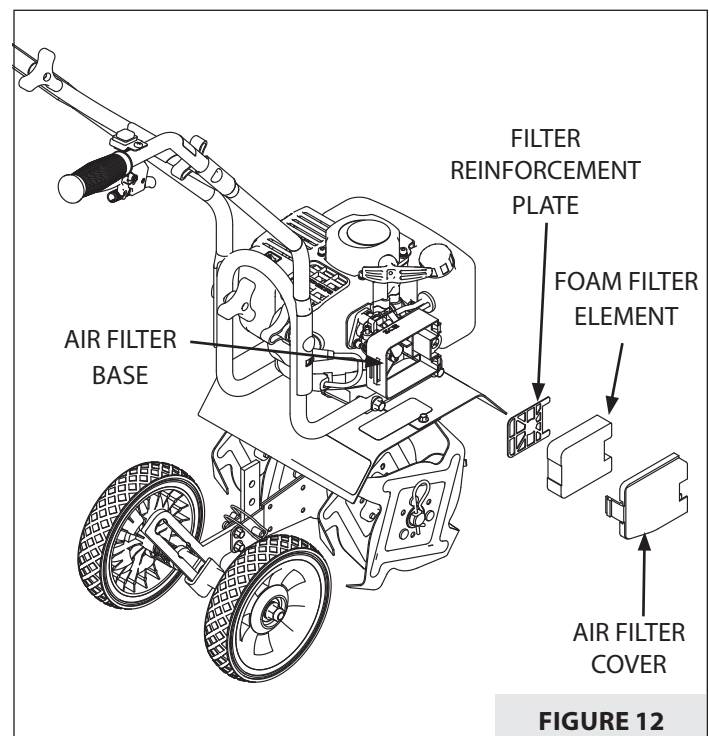

FIGURE 12
3. Remove the foam filter element and reinforcement plate. Replace with a new oiled foam filter or clean the original foam filter with warm water and mild soap. **SEE FIGURE 12.**